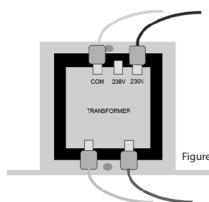

Figure 1: Transformer Wiring for 230V
2. Locate the transformer, as illustrated in Figure 1.